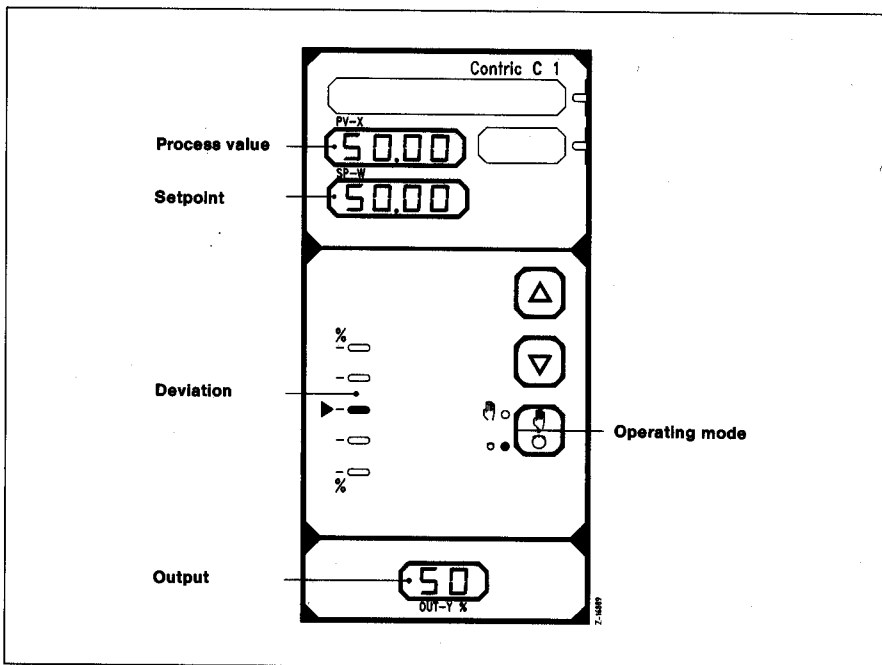

**Fig. 2.3** Wiring for the closed loop control function test
- Short-circuit the analogue input (terminals 7 and 8) and analogue output (terminal 10) to test the **closed loop control function** (Fig. 2.3).